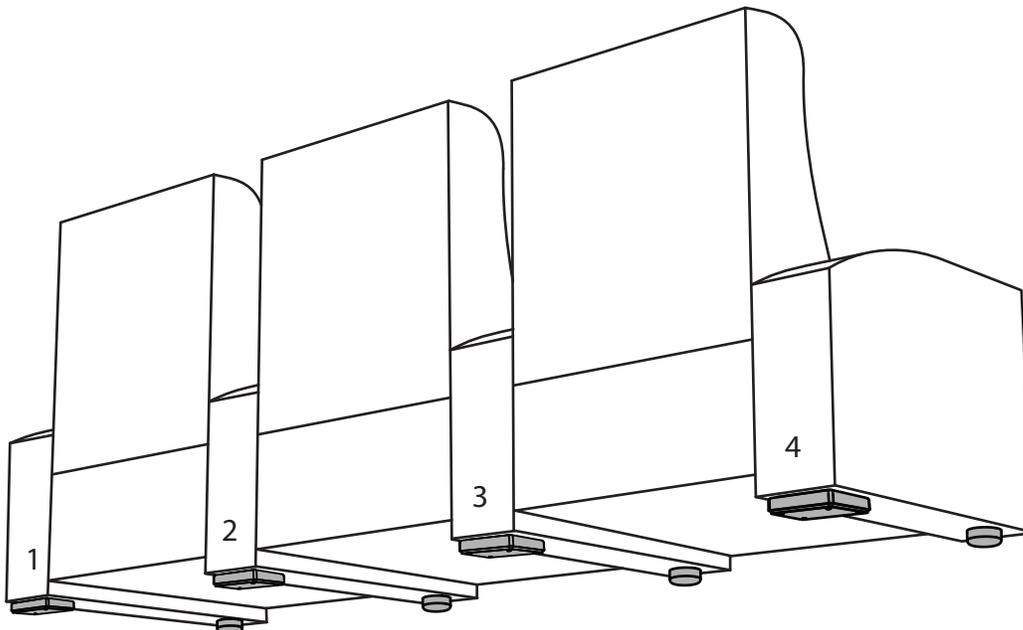

Figure 11
Crowson T108S Tactile Motion Systems may be integrated into large home theater environments with multiple seats and multiple rows. We recommend installing one (1) T108S Actuator and one (1) Motion Isolator per arm (ref: fig. 11). Each "active" seating position must rest, in part, on at least one (1) T108S Actuator. Additional Motion Isolators may be purchased and added to support the additional feet of a non-standard seating design.
2. Connect Actuators to Amplifier(s): If using a Crowson Tactile motion amplifier, please refer to the amplifier Owners Guide. In multiple seat installations, it is often necessary to employ more than one amplifier. It is possible to "stack" amplifiers in order to share the input signals between two (2) or more amplifiers. This will require the use of a line-level multi-channel audio distribution system or the use of RCA "Y" adapters. Please consult with your Crowson Authorized Dealer or a qualified Crowson technician for assistance.
3. Install Actuators: Per standard installation instructions (ref: fig. 11).